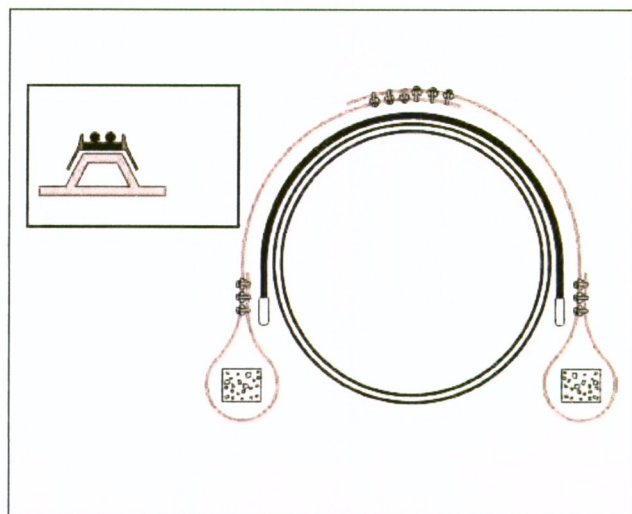

FIGURE 8-8
8.8.1.1.1. The H-shaped positioning clips around the strap are designed to accommodate the wire rope on top of the strap as shown in FIGURE 8-8.